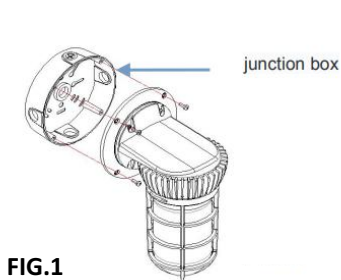
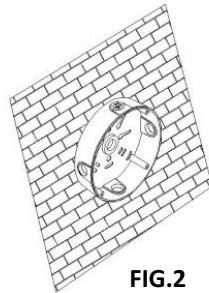

FIG.1
FIG.2
1. Take off the junction box and fix it on the wall by screws. **See FIG. 1 & FIG 2.**
1. Loosen the two screws at the side of the guard, take off the guard ①, glass ② and waterproof gasket ③. **See FIG.1**
2. Loosen the two screws at Location B, take off heat sink ④. **See FIG.2**
2. Loosen the two screws at Location B, remove the arm and junction box. **See FIG.2**